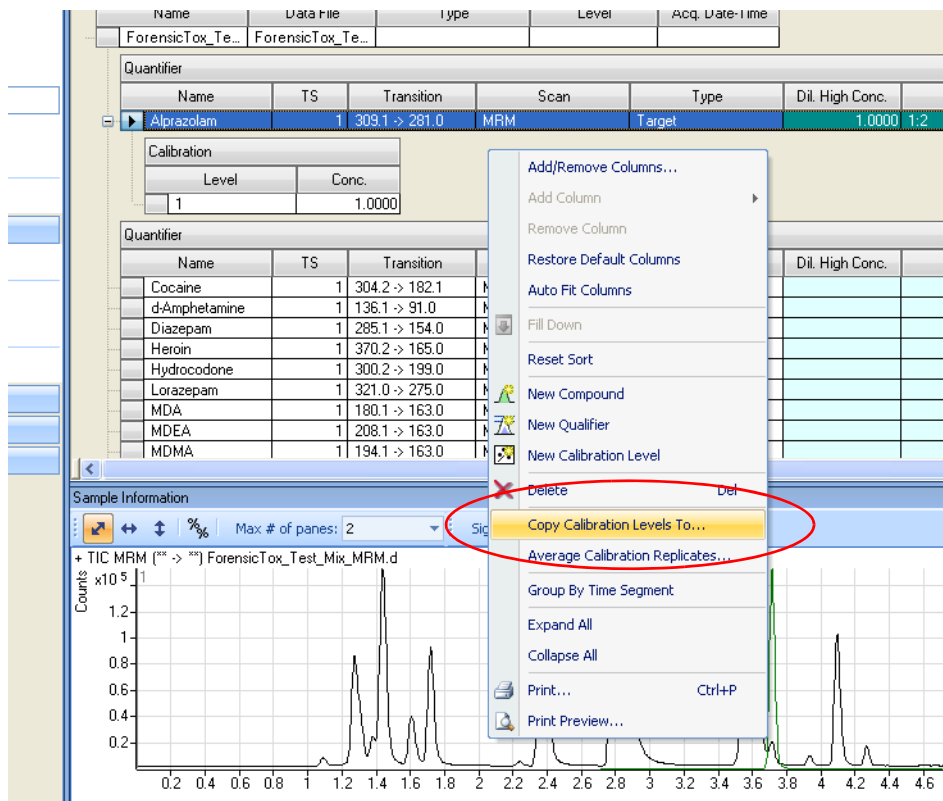

Figure 29 Copy Calibration Levels To selected
- i After the level is created, right-click the name of the first compound and click **Copy Calibration Levels To**. See Figure 29.